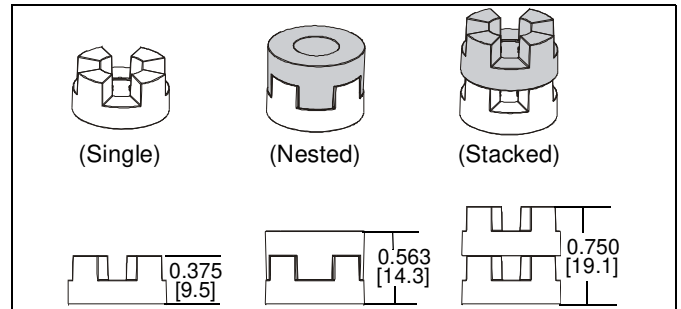

Figure 4
NOTE: The nesting spacers (MM) may be used separately, or put two together in different configurations to create different size spacers. (See Figure 4)